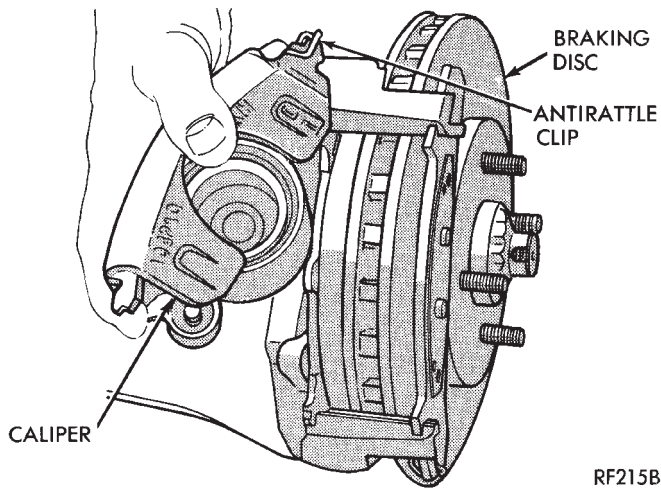

Fig. 16 Installing Family Caliper
(9) Carefully lower brake caliper assembly over braking disc (Fig. 16).
(10) Install brake caliper assembly guide pin bolts. Tighten guide pin bolts to 25-35 N•m (18-26 ft. lbs.) torque. **When installing guide pins, use extreme caution not to cross the threads.**